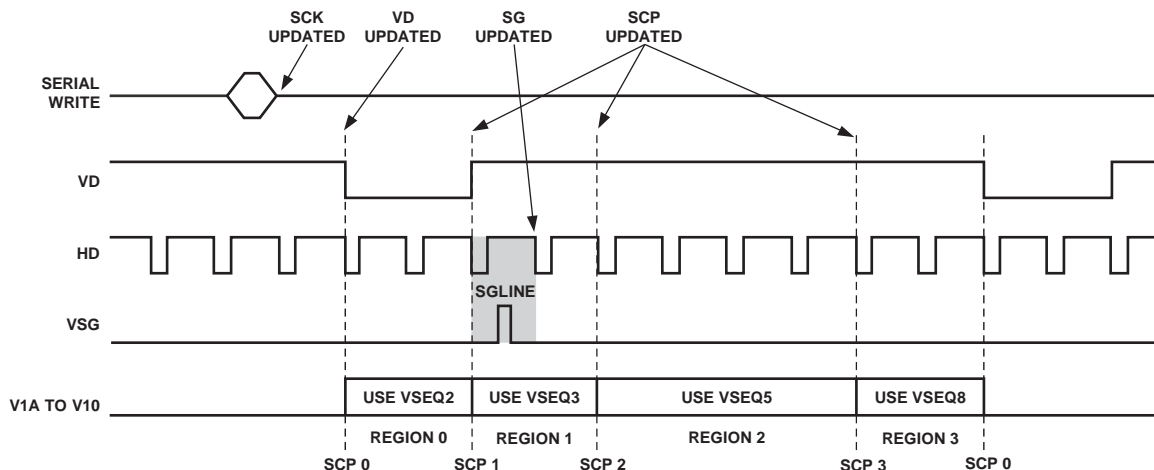

Figure 86. Register Update Locations (See Table 44 for Definitions)
- SCP Updated**—All V-pattern and V-sequence registers are updated at the next SCP where they will be used. For example, in Figure 86, this field has selected Region 1 to use V-Sequence 3 for the vertical outputs; therefore, a write to a V-Sequence 3 or V-pattern group register, which is referenced by V-Sequence 3, is updated at SCP 1. If there are multiple writes to the same register, only the last one before SCP1 is updated. Likewise, a register write to a V-Sequence 5 register is updated at SCP 2, and a register write to a V-Sequence 8 register is updated at SCP 3.